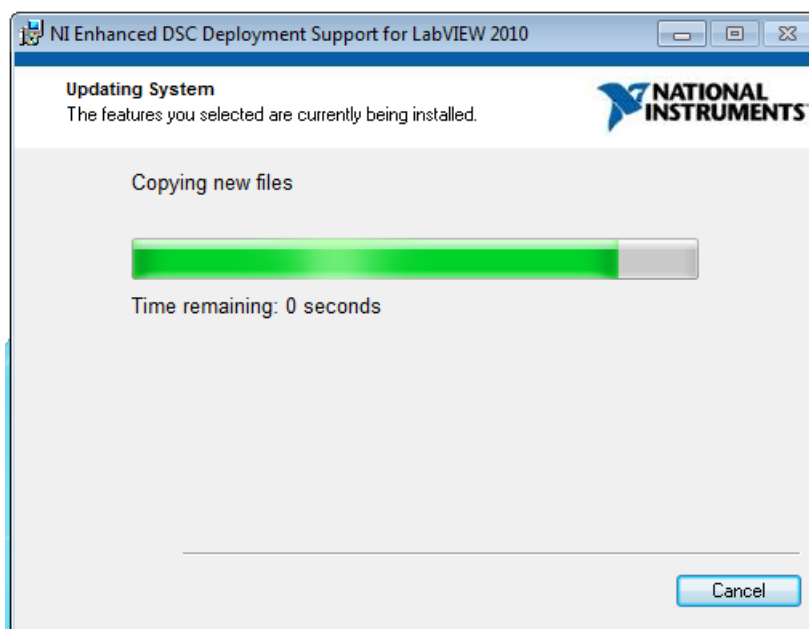

Figure 28. LabVIEW RTE Installation in Progress
6. The installer begins self-extraction and proceeds with the installation as shown in Figure 28.